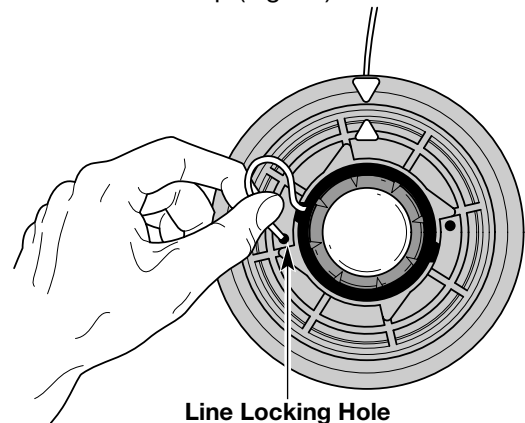

Fig. 16
5. Insert the line into the locking hole (Fig. 16). Do not push the line more than 1/2 inch (12.7 mm) into the line locking hole. When inserted correctly the line will form a small loop (Fig. 16).